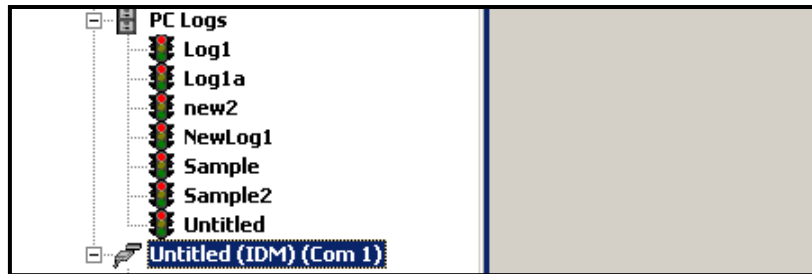
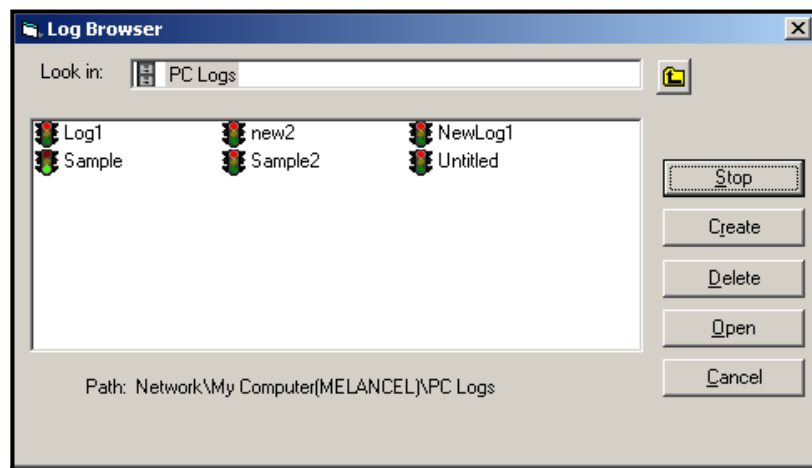

Figure 22: The Expanded PC Logs Option
Figure 23: Selecting a Log File from the Log Browser
- From the *New Meter Browser* in PanaView, expand the network tree and click on the *PC Logs* option. If you have created one or more logs, the tree will appear similar to Figure 22 below. Double-click on the log name to open the log, or
- Pull down the *Output* menu (see Figure 13 on page 57), and click on the *Log Browser* option. Advance to the *PC Logs* dialog box as described in previous sections. A screen similar to that shown in Figure 23 appears.
Notice that each of the log files in Figure 22 and Figure 23 has a traffic light icon next to its name. These icons indicate the current status of the log as follows: